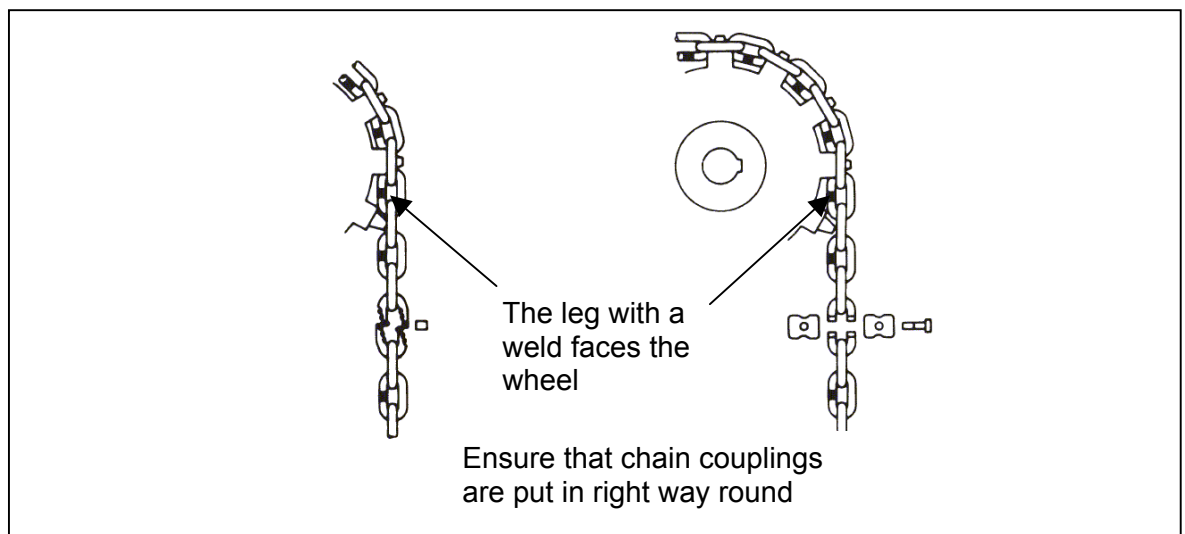

Fig. 5
4.4 Pull the connected chain strands into the system (fig. 5).
The welded joints of the vertically arranged links must face the centre of the wheel when they pass over the sprocket wheels (fig. 5). Otherwise, bending and tensile stresses could lead to the welds breaking.